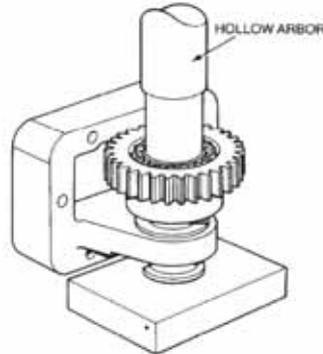

Figure 17 Installing Shaft, Gear and Bearings
- f. Ensure that the flat on the shaft flange is correctly aligned and that the bearings are seated firmly against the spacers (Figure 17).